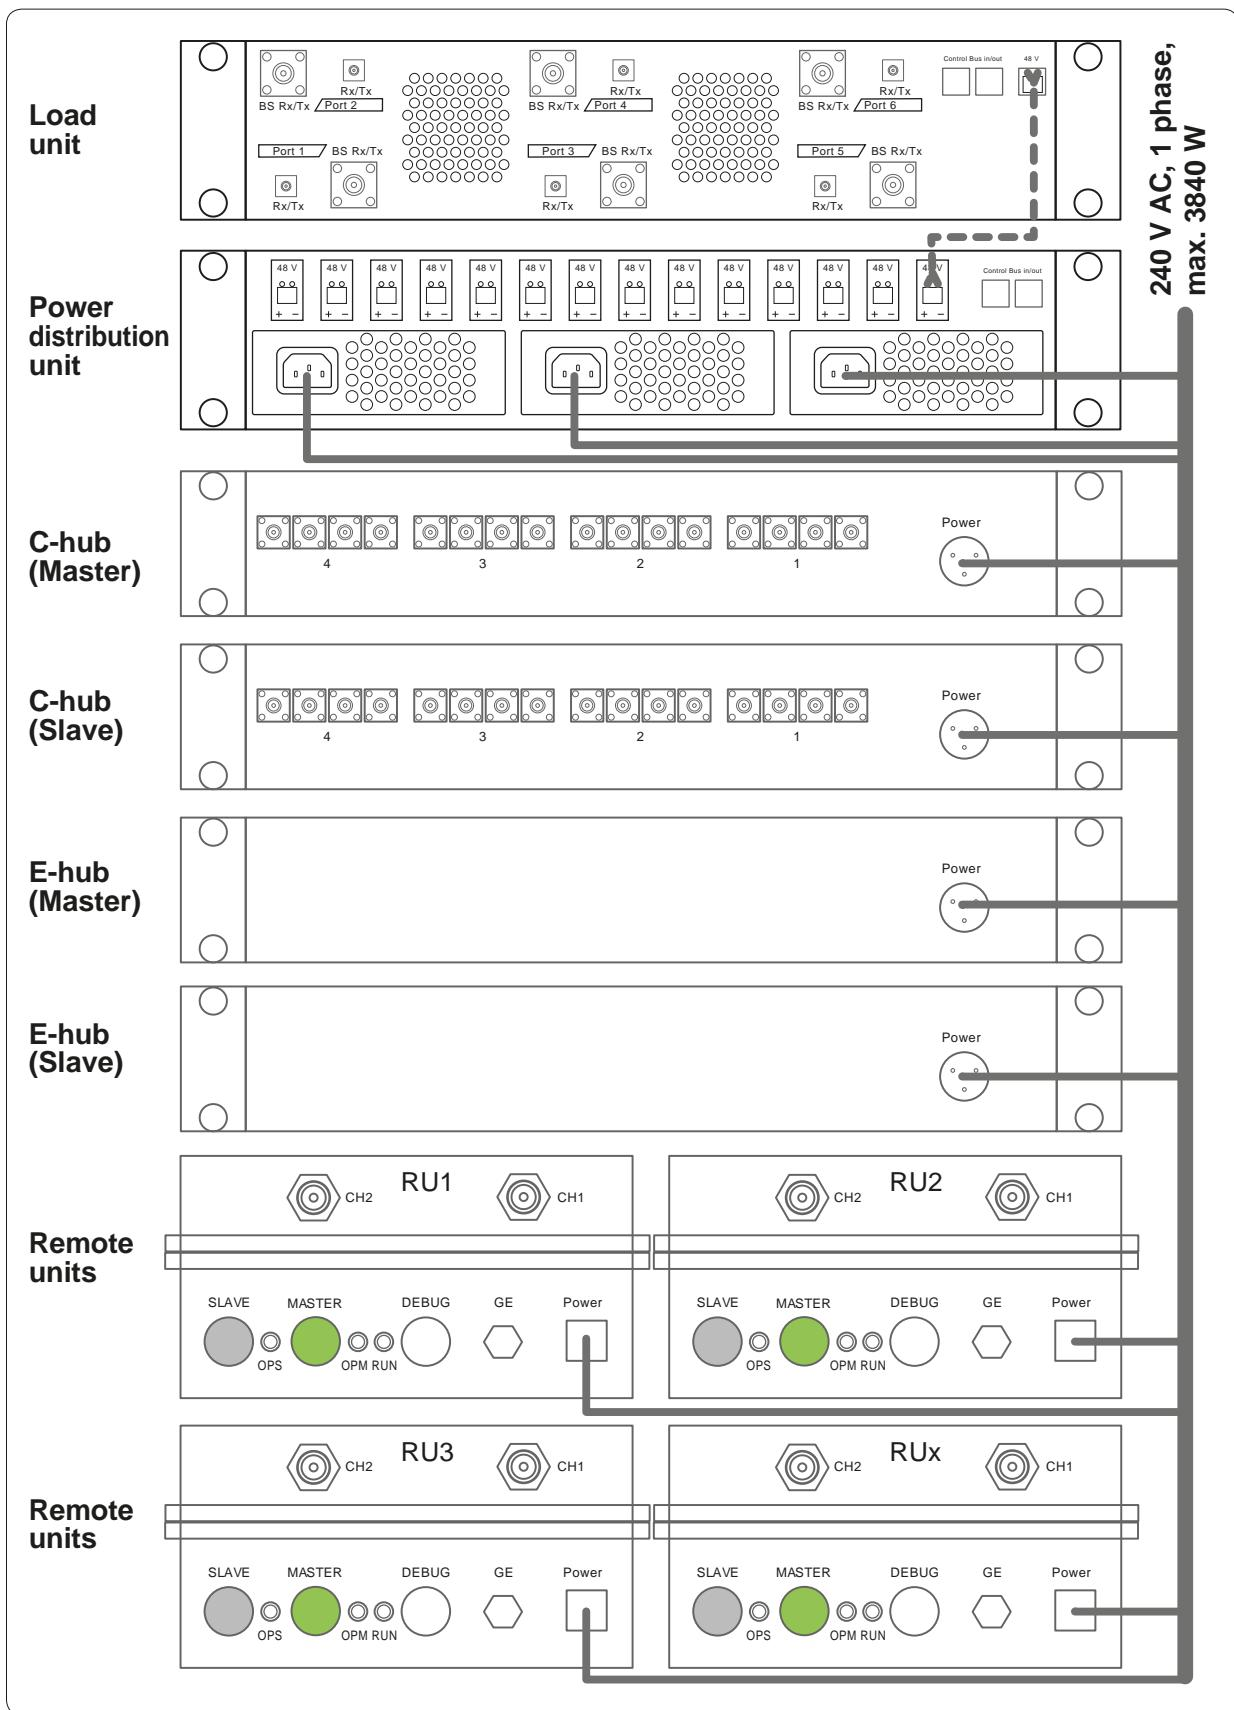

Fig. 37: Power supply cable layout
- Install the required power supply connections. Fig. 37 gives an overview.